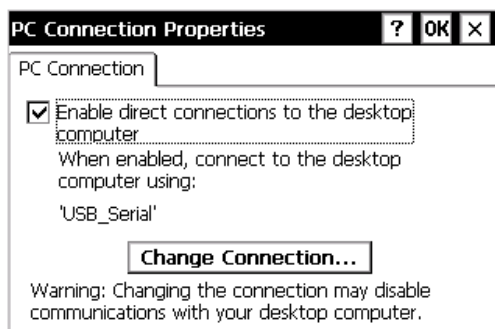

Figure 4-1. PC Connection Properties Dialog Box
1. On the FC-2500, tap **Start ▶ Settings ▶ Control Panel** (Figure 4-1). From the control panel selections, double-click on the *PC Connections* icon. The *PC Connection Properties* dialog box displays.